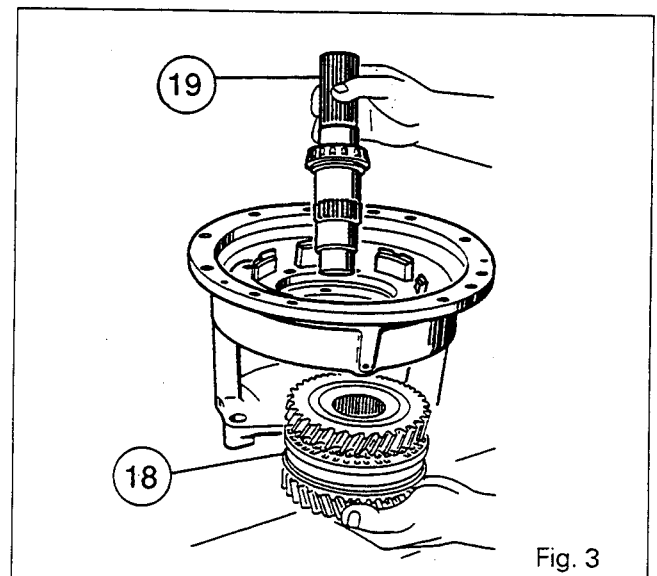

Fig. 3
14. Remove the set screw (10). Withdraw the gear pin (13). Remove the reverse double gear (15), the washers (12) and (17), the needle roller bearings (14) and (16), and the spacer (11).
15. Remove the bolts (36). Remove the locking plate (25), the shims [1] and the cup (37).
16. Extract the secondary shaft (19) (Fig. 3).
17. Remove the gear/synchromesh assembly (18) (Fig. 3) and the friction washer /8.
18. Remove the cone (9) and the cup (38).
19. On the gear/synchromesh assembly, separate: gear (5), bush /7, needle roller bearing (6), synchromesh cone (4), ring (3), synchromesh (2), ring (21), cone (22), gear (23) and needle roller bearing (20).
20. If necessary, extract cone (24) from the shaft and remove the friction washer /35.